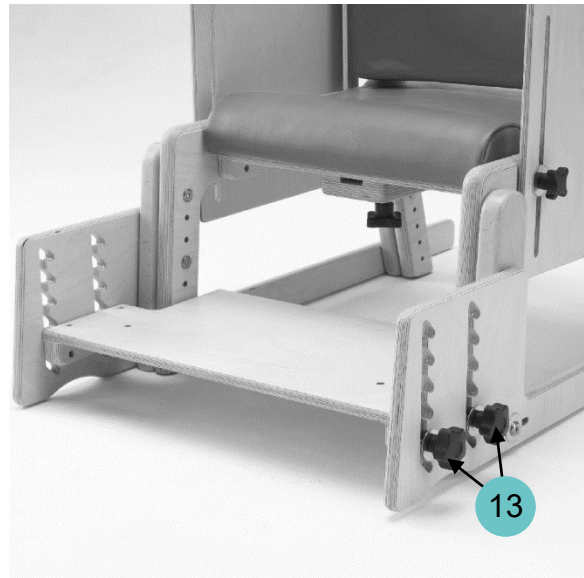

Figure 12
- The height and angle can be adjusted by loosening the handwheels (*Ref. 13 of Figure 12*) on each side, and then positioning the footrest to desired setting.
- Tighten (*Ref. 13 of Figure 12*) before use.